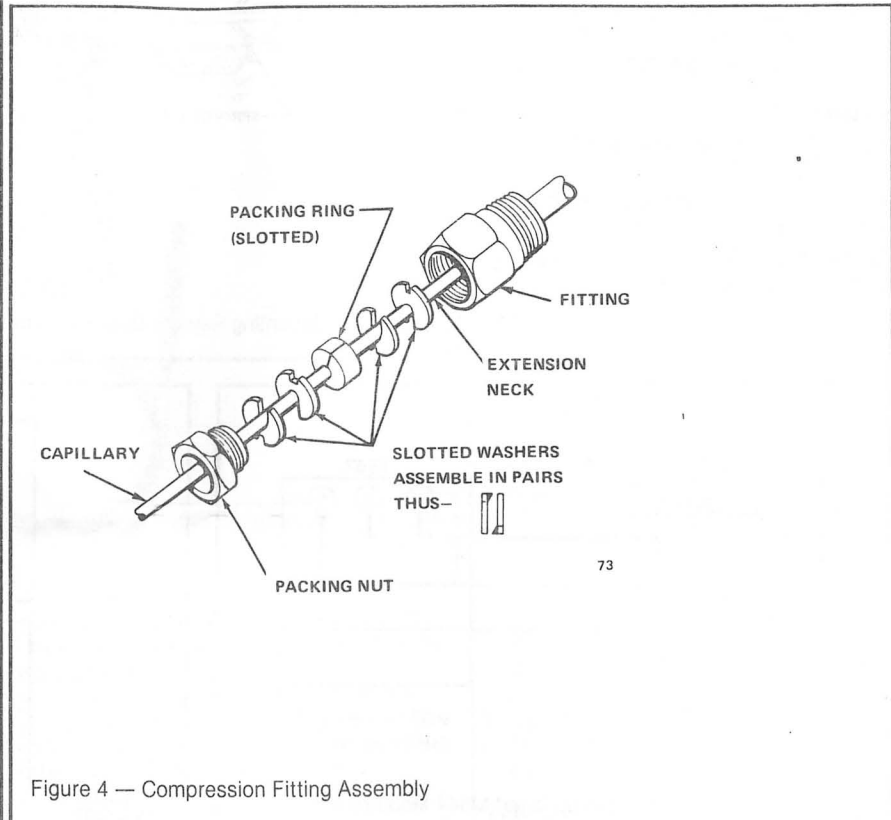

Figure 4 — Compression Fitting Assembly
The following steps should be followed when mounting the bulb in a sealed container (see Figures 4 and 5).
5. Place the composition packing ring and the four-slotted brass washers on the capillary in the order shown in Figure 4. Turn the brass washers so that the slots are 180 degrees from each other.